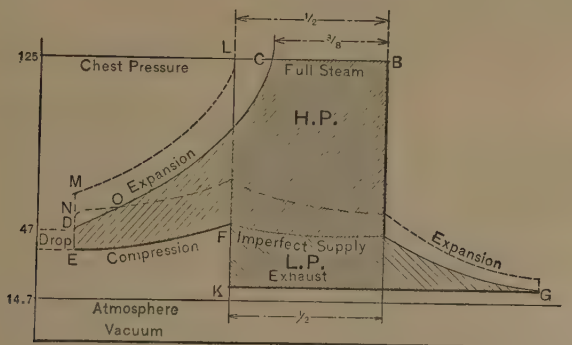

Fig. 323. Theoretical Expansion Diagram.
Q. Suppose instead of cutting off at half stroke in the H. P. cylinder of the receiver engine, as in Fig. 323, reproduced here in dotted lines, steam is cut off at three-eighths stroke, as shown by full lines in Fig. 323; the low-pressure cut-off remaining unchanged; what will be the effect?